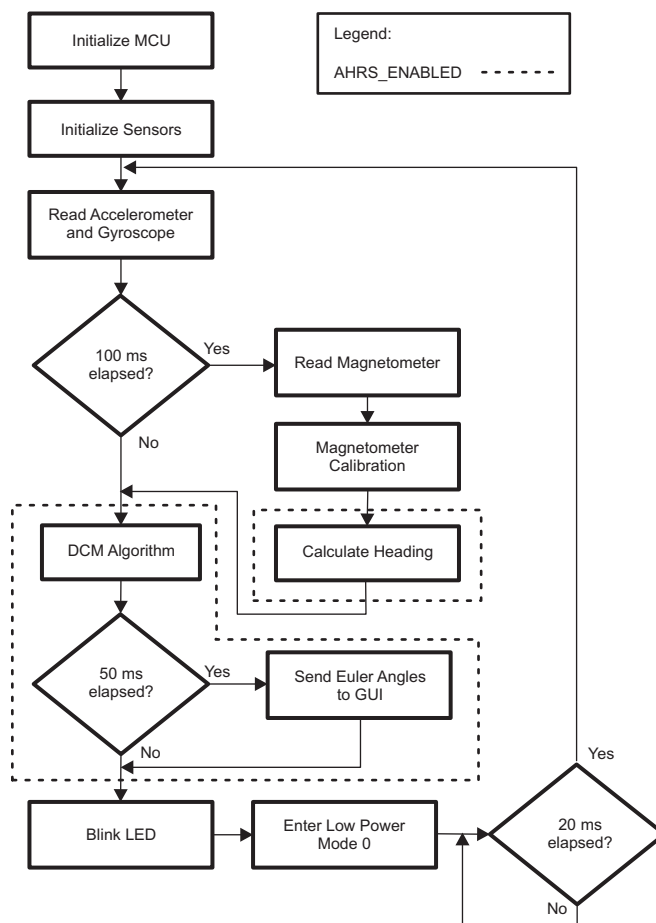
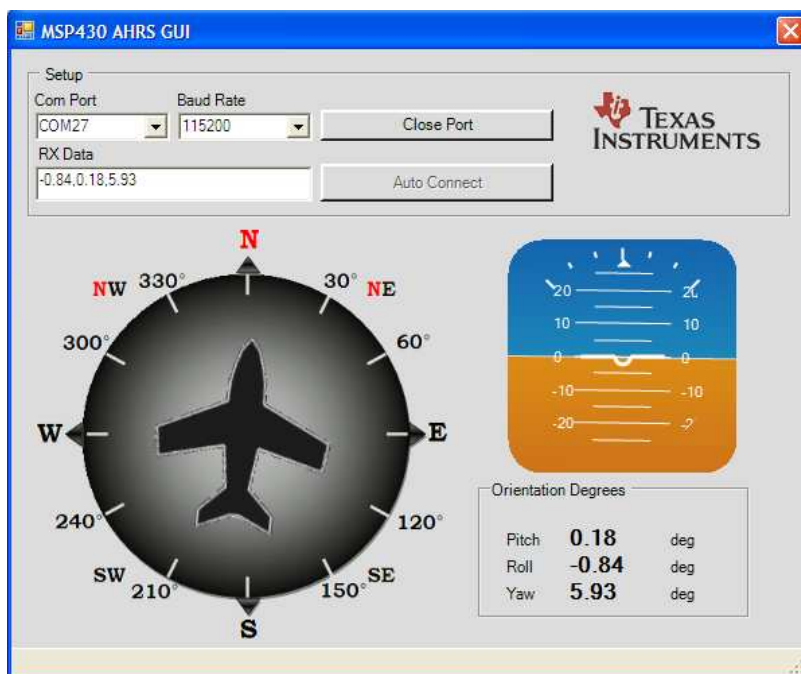

Figure 3. MSP430F5xx AHRs Firmware Overview
Figure 4. AHRs GUI
- AHRS GUI (See Figure 4)
This section covers the firmware's architecture of the AHRS. There are two modes of firmware that can be downloaded to the MSP430F5xx family: AHRS mode (see Figure 3) or the calibration mode (see Figure 4). The mode must be defined in `device.h`, where you must enable either `#define AHRS_MODE` or `#define CALIBRATION_MODE`.
The magnetometer's three axes readings are soft and hard iron compensated (see Section 4), and the sensor platform's heading is calculated. The calibrated sensor readings are fed to the Direction Cosine Matrix algorithm (see Section 2) to calculate the Euler angles (roll, pitch, and yaw). The orientation angles are sent via USB to the AHRS GUI in the computer, at a 20 Hz (50 mS) rate. The GUI displays the Euler angles in a horizon (pitch & roll) and a digital compass (yaw) (see Figure 4).